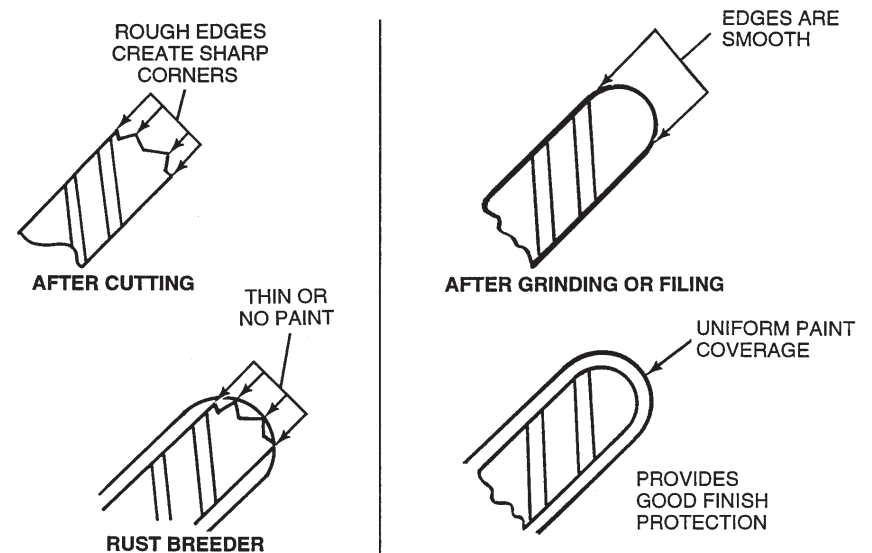

Figure 3
- When preparing raw metal edges, eliminate all sharp edges so metal preservative will adhere properly (Figure 3). Apply rust inhibitor around all body cutouts and holes drilled through exterior painted body panels. See the Upfitter Integration Paint and Sealing Guideline Manual.